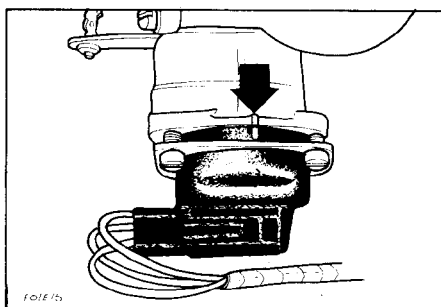

Fig. 7 Choke housing positioning
- Line up marks on cover and choke housing and tighten screws (Fig. 7). Reconnect choke wiring.